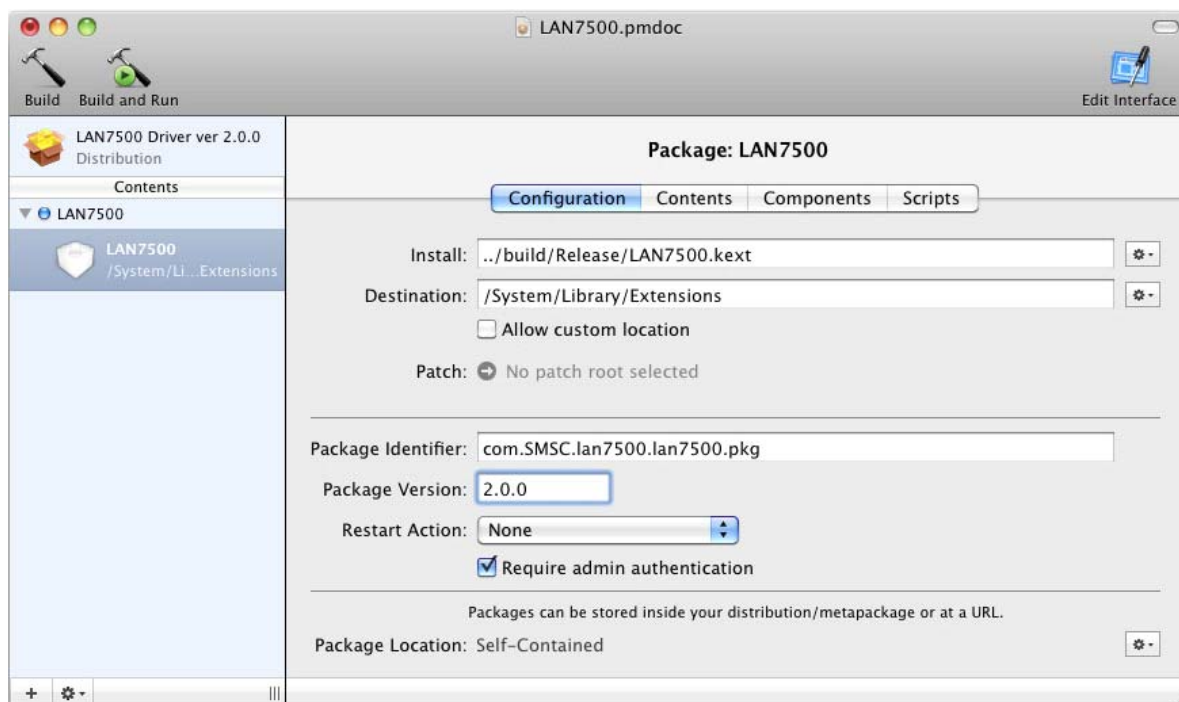

Figure 8.9 Configuration Information
7. Complete the information under the “Configuration” heading as suggested in Figure 8.9, modifying as necessary for the user’s application.